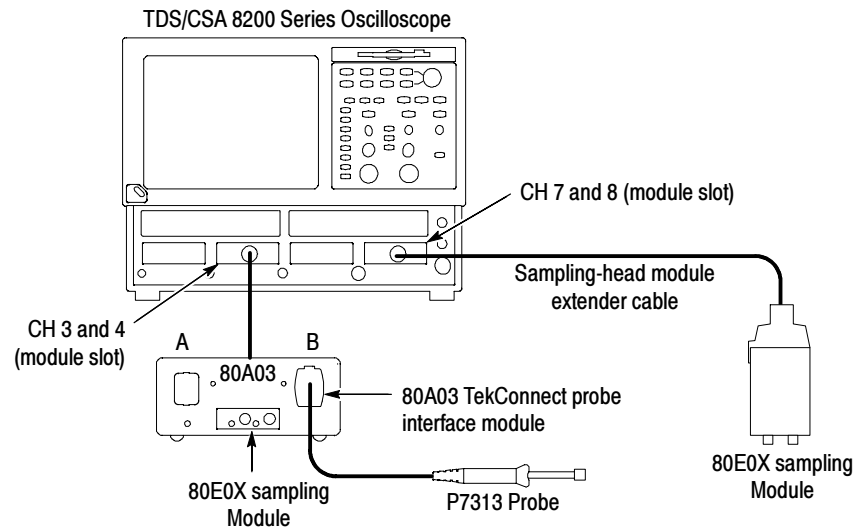

Figure 9: Preliminary test setup
1. Connect the 80A03 TekConnect probe interface to the channel 3 and 4 slot of the TDS 8200 oscilloscope. See Figure 9.